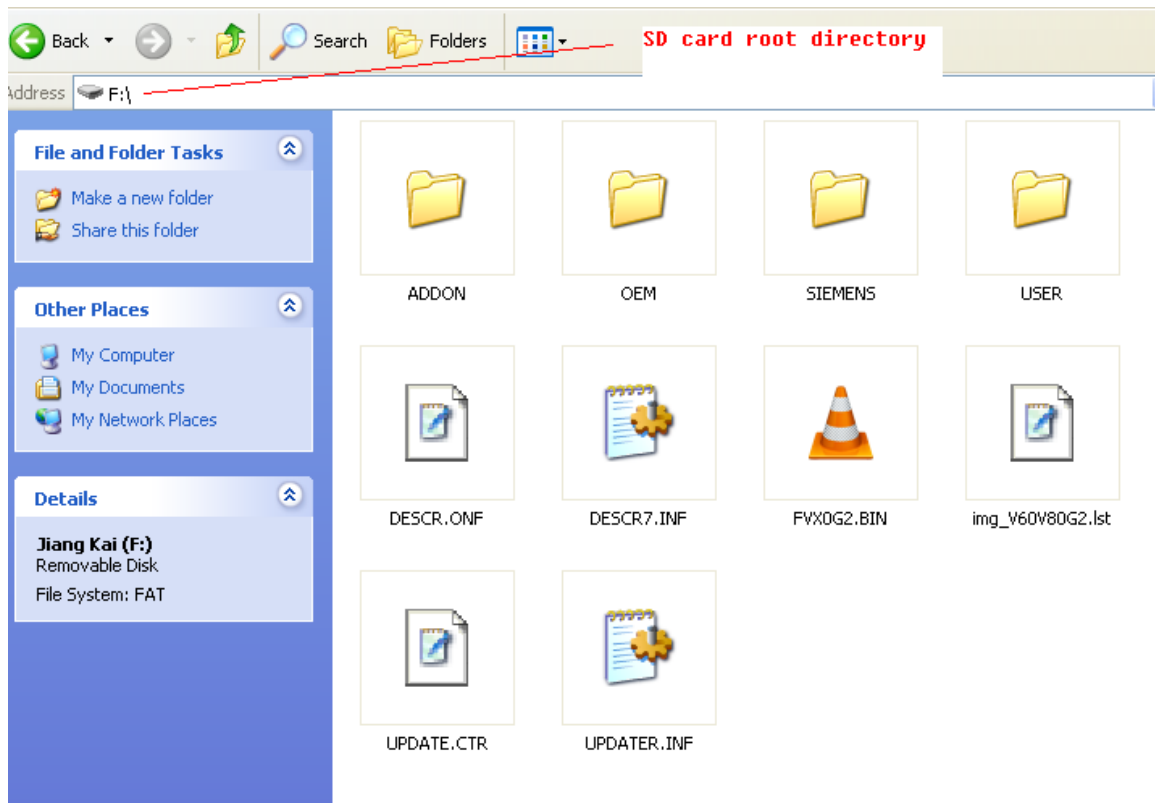

Figure 2 V90 firmware files in SD card root directory
- Copy all the files to the root directory of the SD card as figure 2.